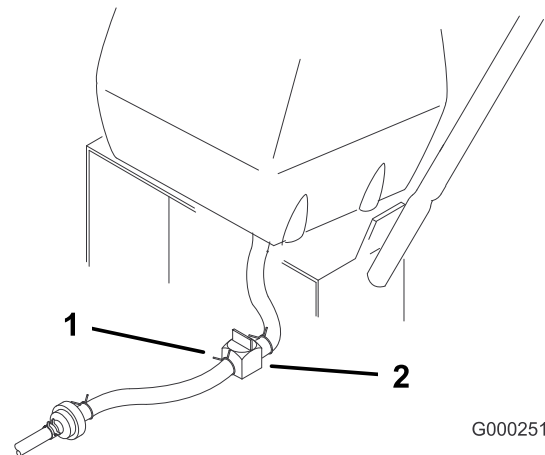

Figure 31
3. Close the fuel-shutoff valve at the fuel tank (Figure 31).
4. Squeeze the ends of the hose clamp together and slide it up the fuel line away from fuel filter (Figure 31).
5. Pull the fuel line off the fuel filter (Figure 31).
3. Close fuel-shutoff valve at fuel tank (Figure 31).
7. Open fuel shutoff valve at fuel tank (Figure 31).